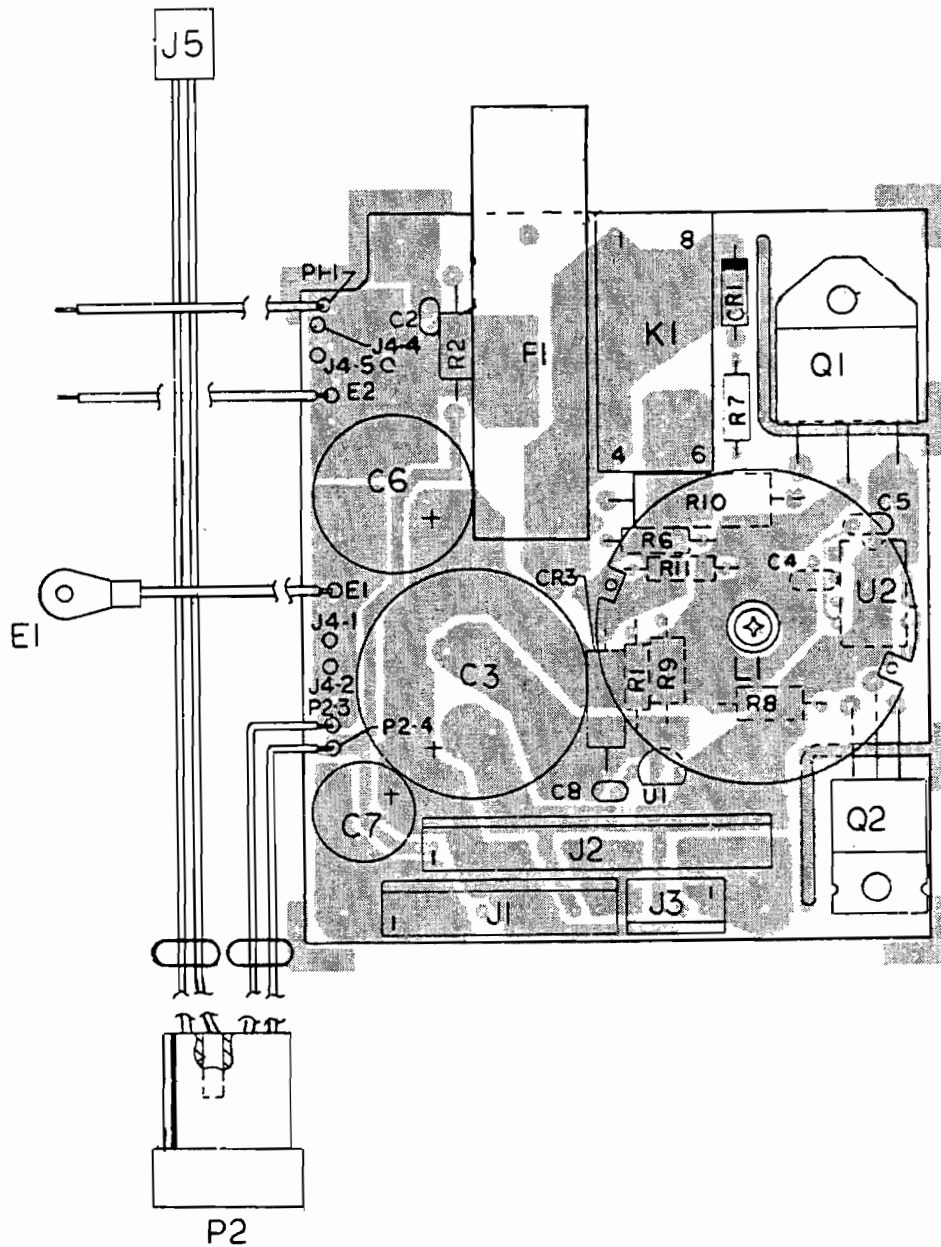

Figure 5. A5A2 Power Distribution PWB Assembly Component Location Diagram
- Carrier/Tune Reference Generator (U58C) – processes the PWRCTRL0 and PWRCTRL1 digital signals (where logical high is +8 volts) from the digital control portion of this PWB whose levels are controlled by the transmitter mode and the tune-power status. The function is to control transmitter carrier power. A higher output voltage causes a higher carrier level. Refer to the schematic diagram (figure 5, sheet 8) for the table of Transceiver Modes versus voltages at the inputs and output of U58C.